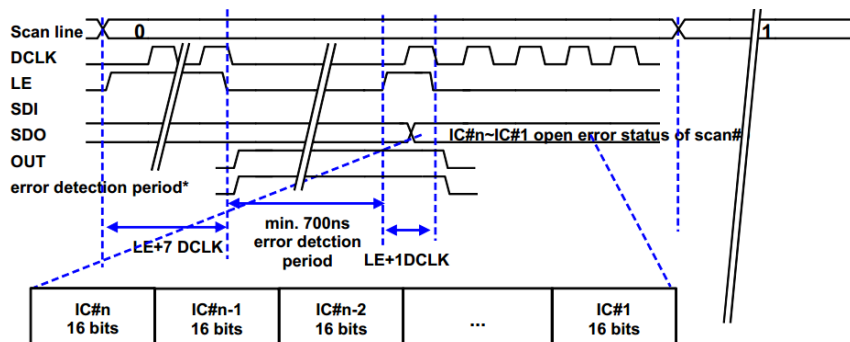

Figure 17. The timing waveform of compulsory error detection
As figure 17 shows, MBI5051/52/53 executes the compulsory open-circuit detection while the LE high pulse is sampled by 7-DCLK rising edges. In the duration of compulsory open circuit detection, all the output channels will be turned off.
1. In the duration of compulsory open circuit detection, the SDI data can be ignored until LE pin is sampled by 1-DCLK rising edge. The duration should be keep longer than 700ns, as figure 17 shows.